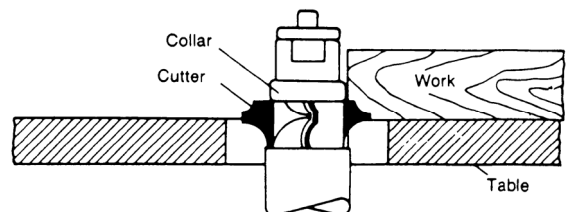

Figure 17
2. Using the collar above the cutter, Figure 17, offers the advantage of the cut not being affected by slight variations in the stock's thickness. However, the cut is not visible during the operation. Another advantage is accidental lifting of the work piece will not gouge the work piece. Simply correct the mistake by repeating the operation.